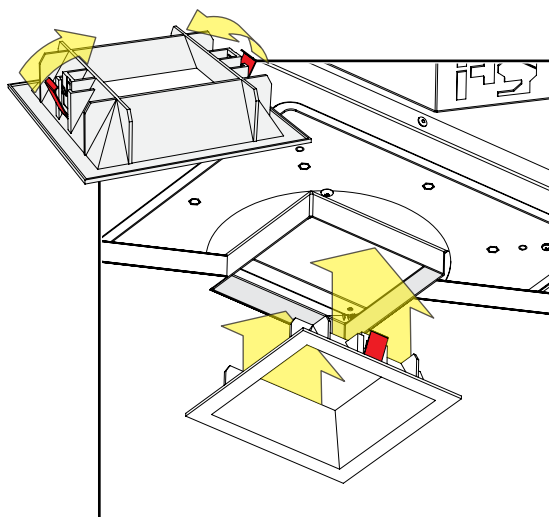

fig. 13
- Compress the springs and push into the downlight aperture until the trim is flush to the ceiling. Ensure that the springs are properly compressed and are going into the collar, not around the collar (see fig. 13).